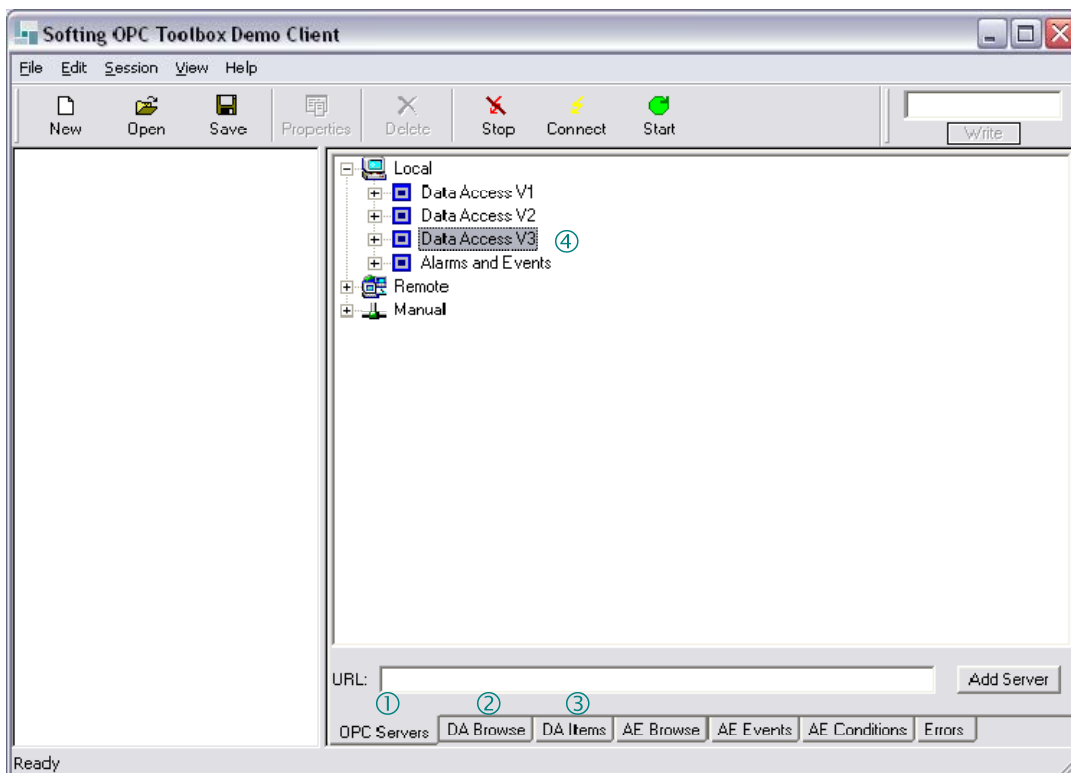

Figure 6: OPC-Demo-Client
In the OPC Toolbox Demo Client (see Figure 6), the connection to the OPC server and the desired measuring variables have to be configured in the first two tabs (① und ②) in the right part of it's window: